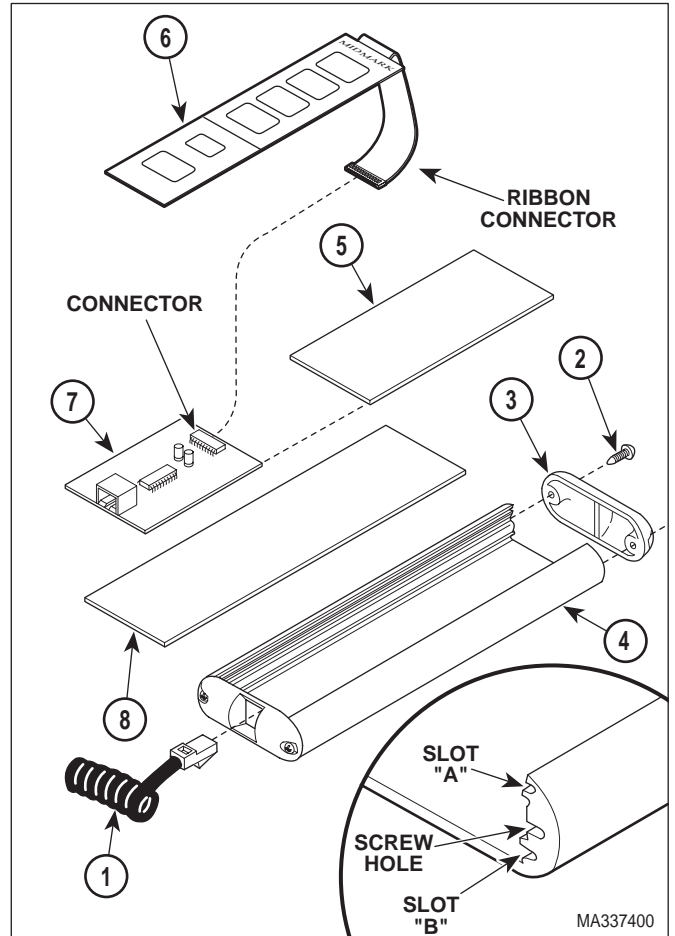

Figure 4-22. Hand Control Panel or Interface Board Removal / Installation (early)
- (1) Disconnect coil cord (1, Figure 4-22) from hand control.
- (2) Remove two screws (2) and top end cap (3) from hand control tube (4).
- (3) Remove locating plate (5) from hand control tube (4).